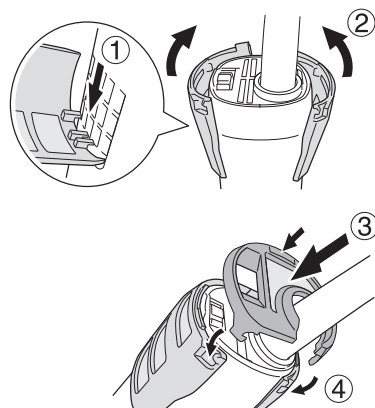

Fig. 14
**Reattaching procedure (Fig. 14)**
- (1) Engage the clip on the side filter with the vent air hole and align the filter with the main unit.
- (2) Insert the bottom filter, then push in the clips with the side filters.